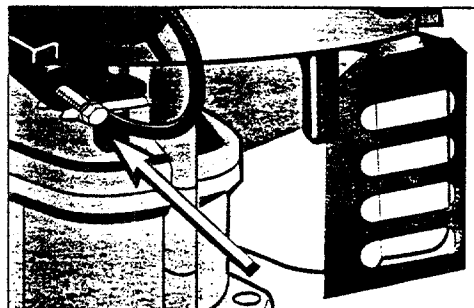

Figure 9A: Do not adjust or tighten the factory-set governor speed screw (see arrow).
19. Inspect and tighten all hardware using regular household tools. **IMPORTANT: Do Not Tighten Or Adjust The Engine Governor Screw Shown in Figure 9A. It Is Factory-Adjusted For Proper Engine Operation!**